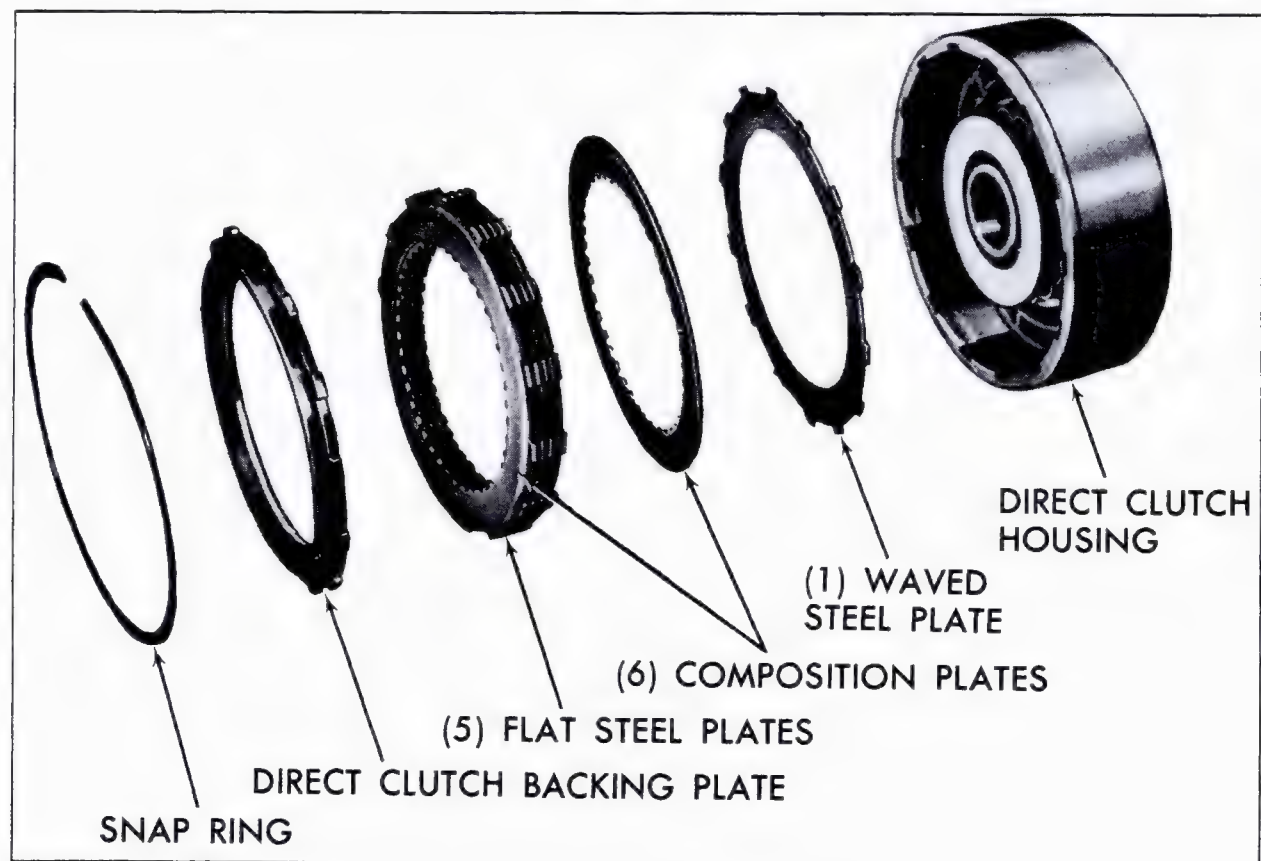

Fig. 7-82 Direct Clutch Disassembled
4. Remove direct clutch backing plate and six composition and six steel clutch plates, Fig. 7-82.